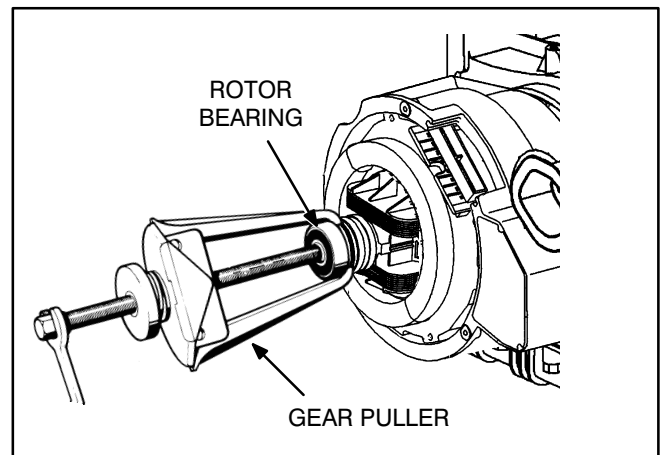

FIGURE 7-12. ROTOR BEARING REMOVAL
2. Use a small puller with grips that will fit between the bearing and the collector ring assembly (Figure 7-12) or use an arbor press to remove the bearing. Cover the end of the rotor shaft with a steel plate to prevent deformation of the shaft during removal.